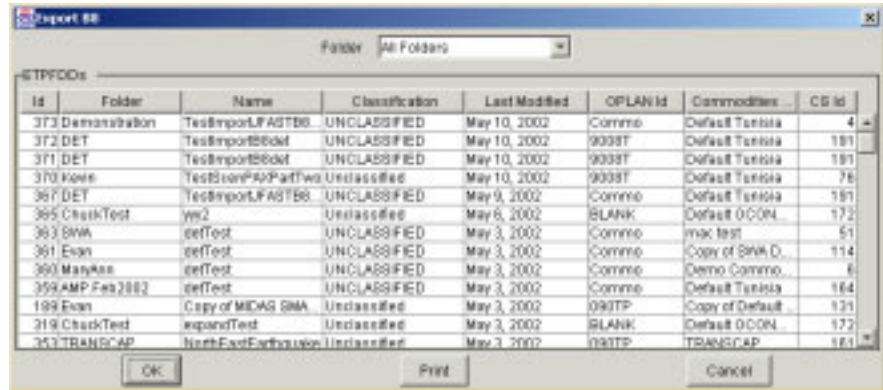

Figure 5.31 Export B8 Window
1. On the ETEdit (main) window, on the File menu, click Export B8. The Export B8 window opens (Figure 5.31).